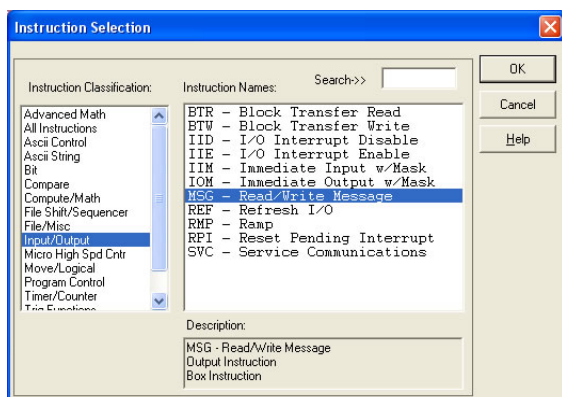

Figure 119: MSG Instruction Selection
- d) Select the "MSG" instruction from the "Input/Output" classification, and then click OK. Refer to Figure 119.